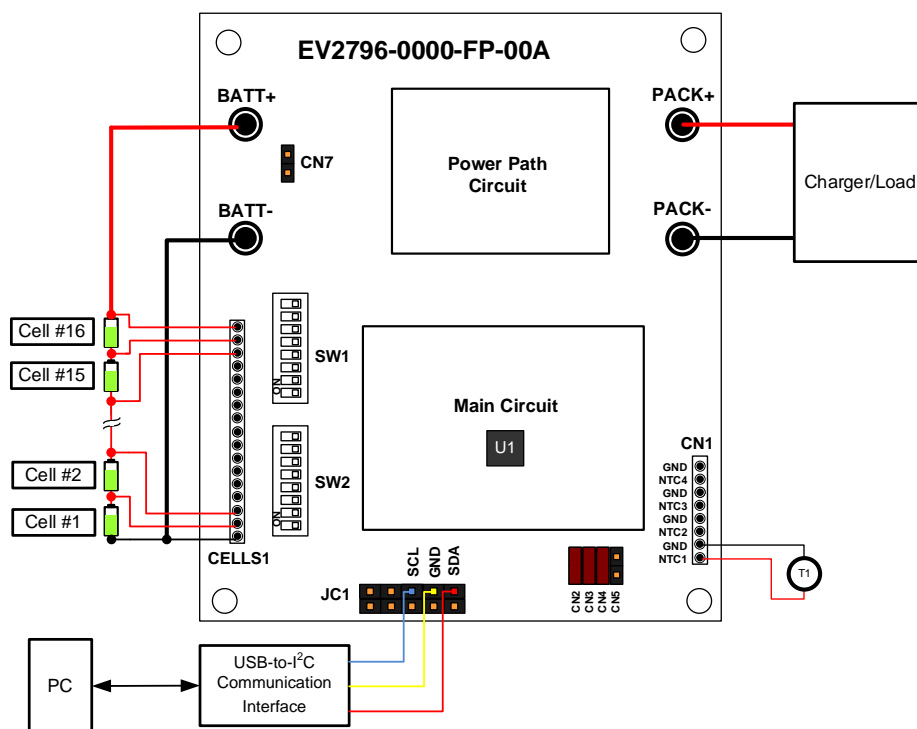
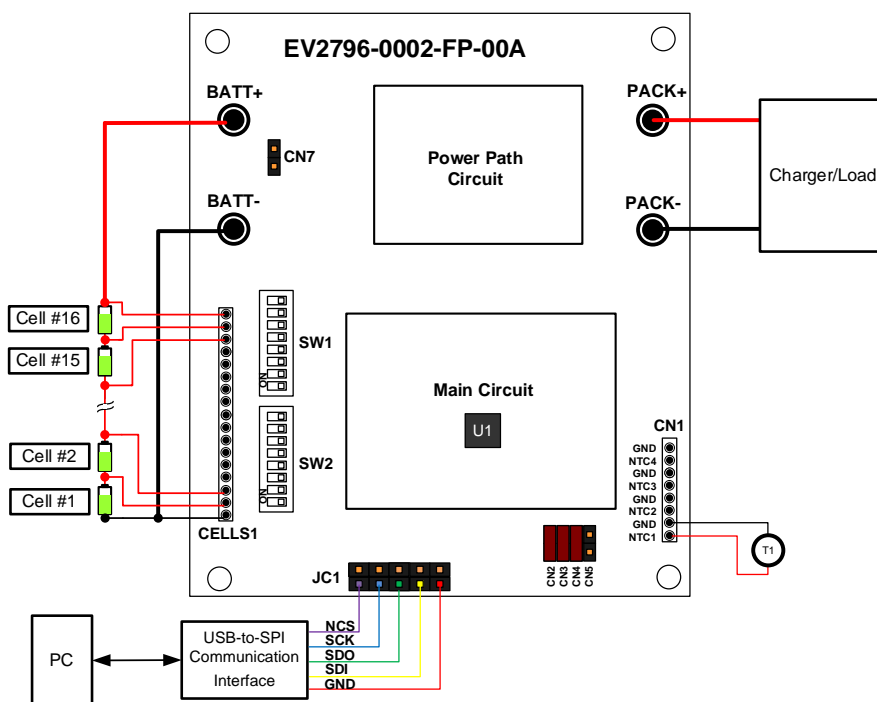

Figure 9: EV2796-0000-FP-00A Wire Connection
Figure 10: EV2796-0002-FP-00A Wire Connection
9. If using the EV2796-0000-FP-00A, connect SDA, SCL, and GND to the USB-to-I²C communication interface (see Figure 9 on page 10). If using the EV2796-0002-FP-00A, connect NCS, SCK, SDO, SDI, and GND to the USB-to-SPI communication interface (see Figure 10 on page 10).